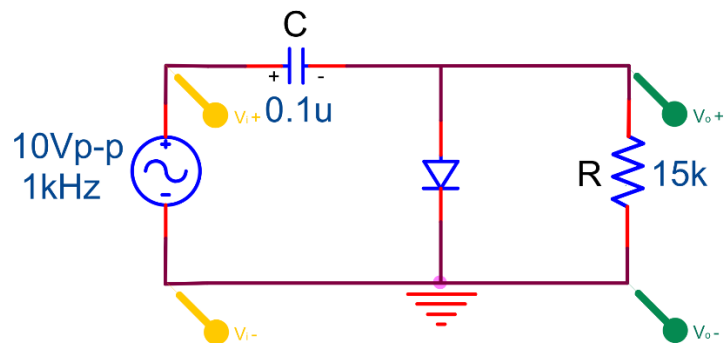

Figure 3.12
4. Run a PSPICE simulation of Figure 3.12.